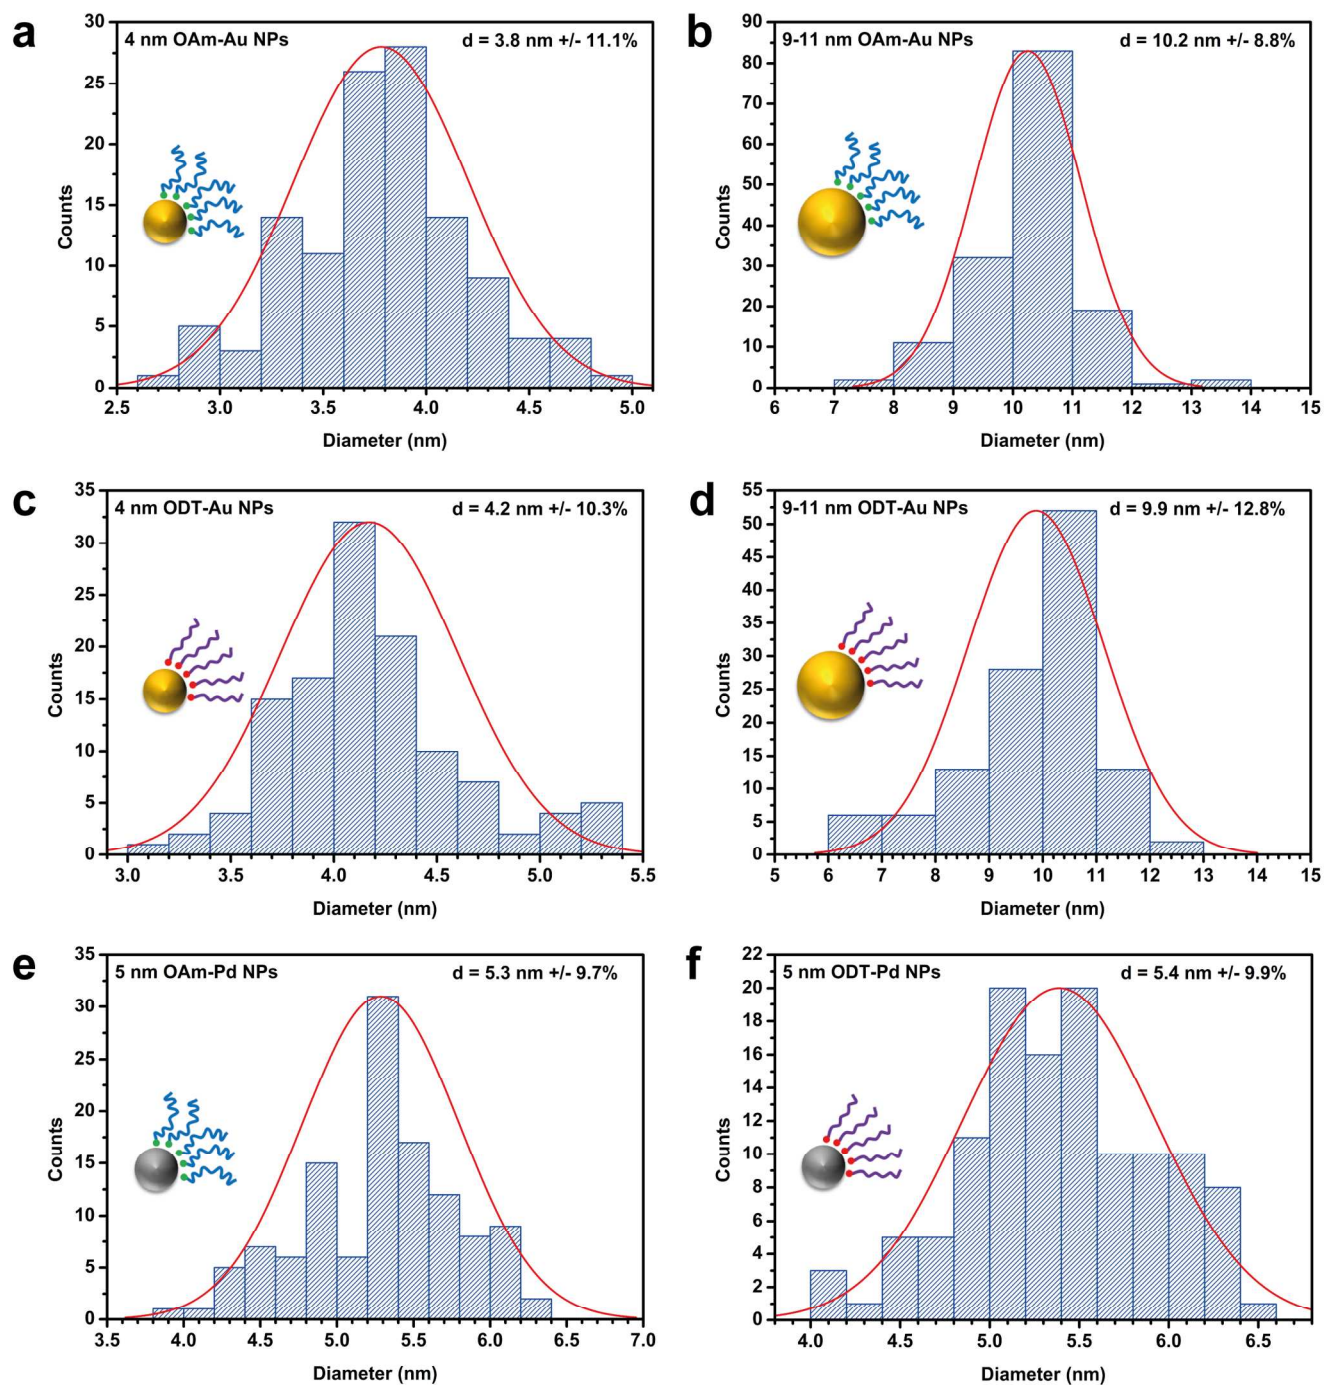

Figure S1. Size distribution histograms of OAm and ODT surface functionalized Au and Pd NPs.
- **Figure S1:** Size distribution histograms of OAm and ODT surface functionalized Au and Pd NPs.